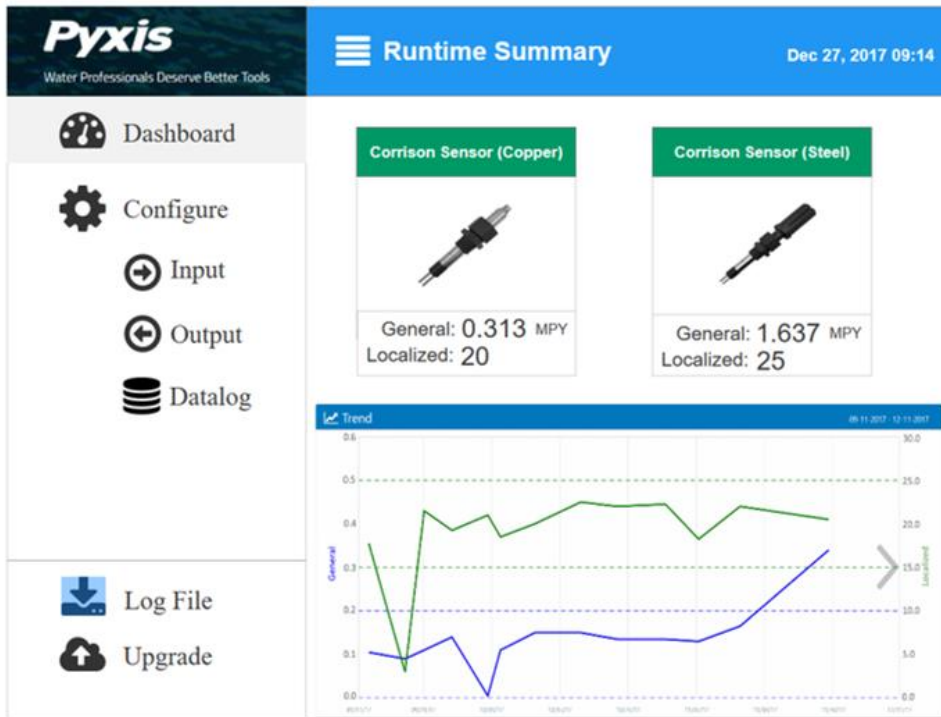

Figure 28. UC-300 dashboard showing measured corrosion rate and trend chart
The Pyxis UC-300 can provide 24 VDC power to two CR-300 sensors. The panel connects to the sensor by Modbus and reads the sensor data every 4 seconds. The trends of the corrosion rates and localized corrosion indexes (or pitting index) from the two connected sensors can be displayed and recorded (figure 28). The panel passes the four (4) 4-20mA current signals, two (2) from each sensor, to other controllers. An alarm on the general corrosion rate for each probe can be set up. The panel turns on a relay output if an alarm condition is met. Please reference the UC-300 manual for further information.